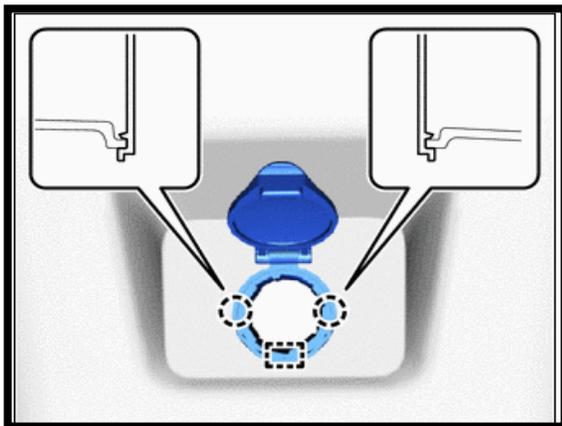

Figure 5
8. REMOVE NO. 3 POWER OUTLET SOCKET COVER (W/o USB Charger) Figure 5.